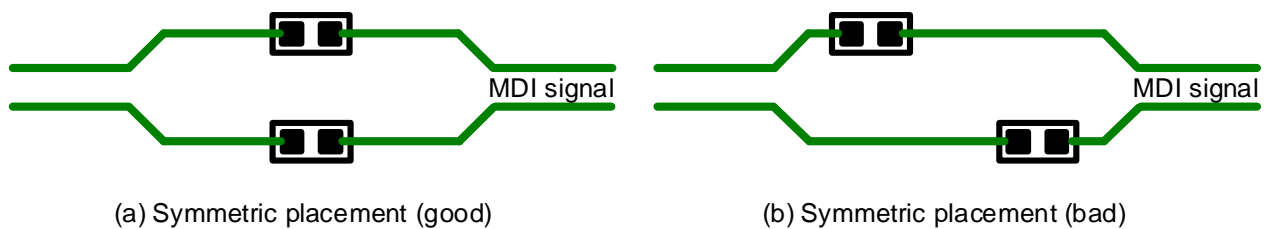

Figure 7 Layout of Components on Differential Signal Transmission Paths
- Lay out components on the MDI signals such that the differential pairs are symmetric. (See Figure 7.)